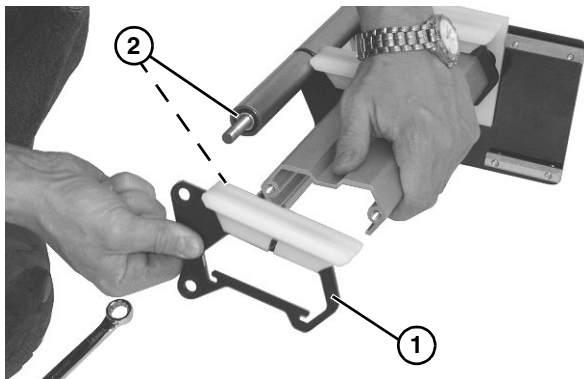

Figure 50
7. Slide the support plate (**Figure 50, item 1**) off of both axle shafts.
8. Remove washer (**Figure 50, item 2**) off of lower and upper axle shafts.